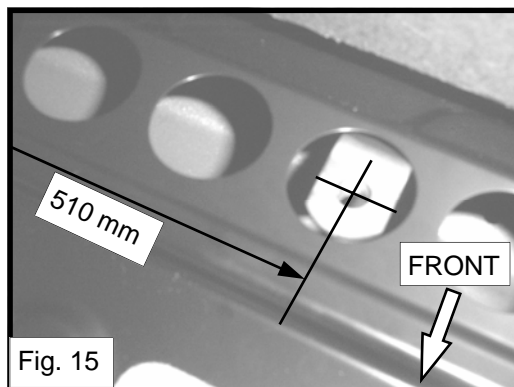

Fig. 15
2. Adjust the Extension Straps so that they sit as close to the centre of the holes in the floor brace as possible and are approximately 510mm apart at the centre of the welded nuts as shown in Fig. 15.